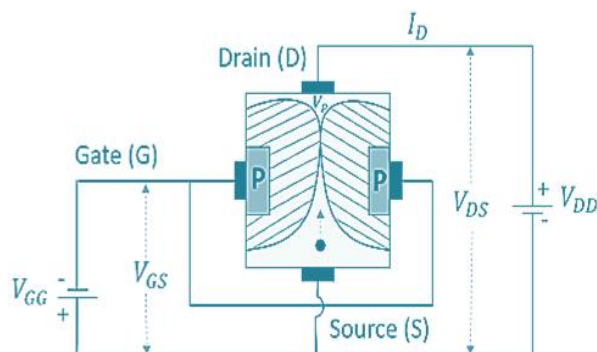

Fig.2.4: n-channel JFET when $V_{GS} = 0V$ and $V_{DS} = V_P$
3. When V_{DS} is further increased, a stage occurs where both the depletion layers touch each other, and prevent the current I_D flow as shown in Fig.2.4